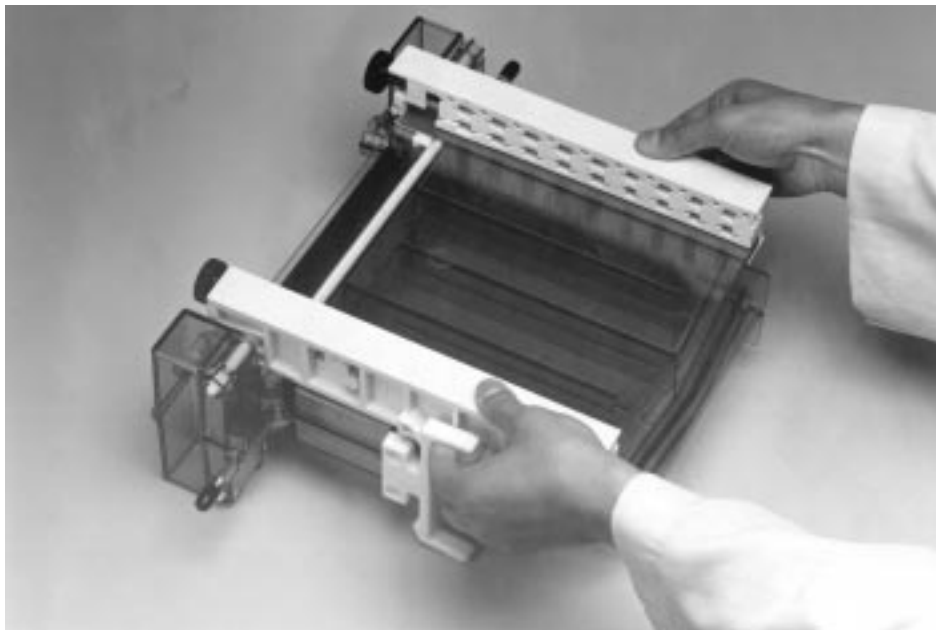

Fig. 3.3.
2. With your fingers on the inside of the latch on the cooling core and your thumbs resting on the clamps, gently snap the gel sandwich onto the cooling core (Figure 3.3).